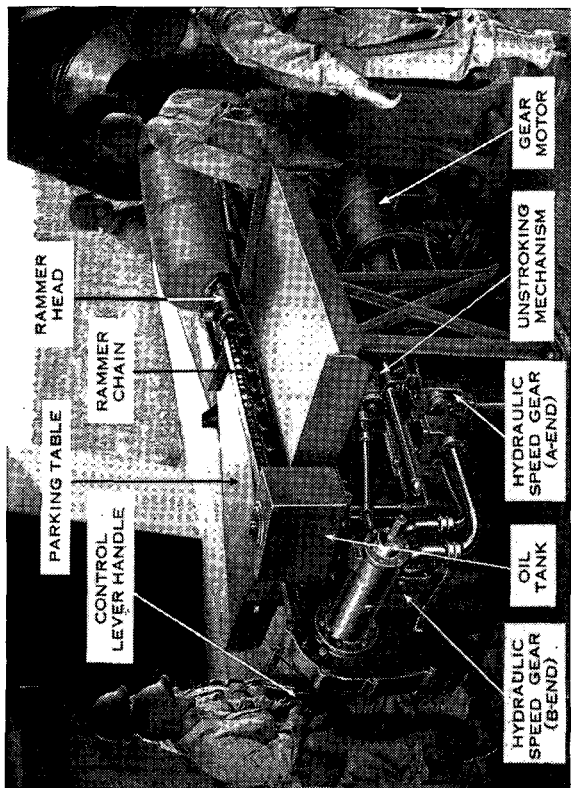

Figure 12. Operating the rammer.
b. Ramming the projectile. (1) To ram the projectile, No. 5 moves the rammer control lever (fig. 12) up to the RAM position. For safety reasons he should grip the handle loosely or, even